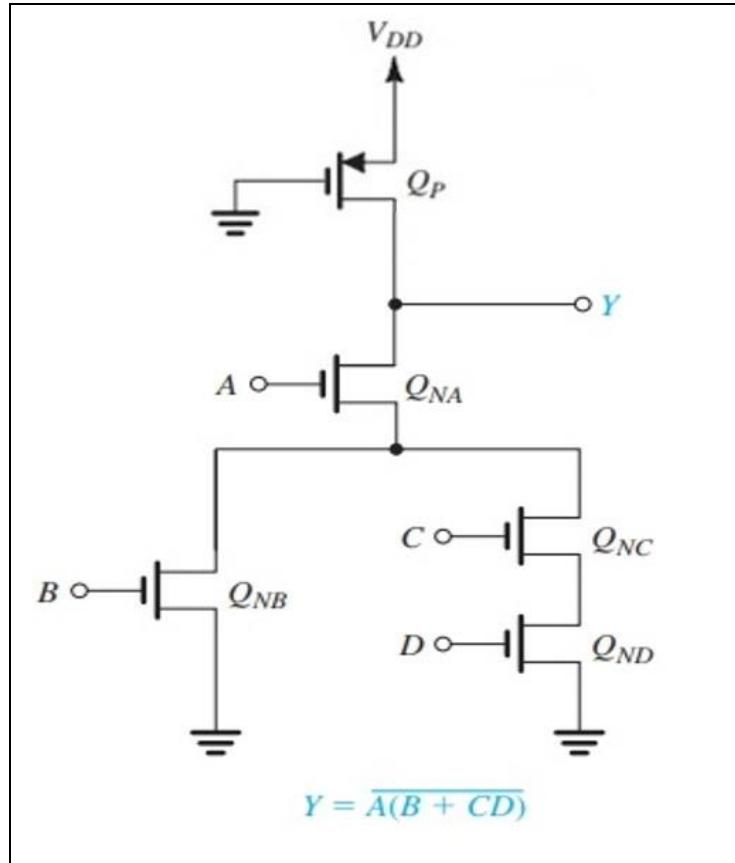

Figure 2: Pseudo NMOS realization of complex gate
Except for the load device, the pseudo-NMOS gate circuit is identical to the PDN of the complementary CMOS gate. Pseudo-NMOS realization of complex gate  $f = \overline{A(B + CD)}$  is shown in Figure 2. Note that five transistors are used compared to the eight used in standard CMOS.
2. For implementing Pseudo NMOS complex logic function  $f = \overline{A(B + CD)}$ , connect the NMOS transistors as shown in Figure 2.